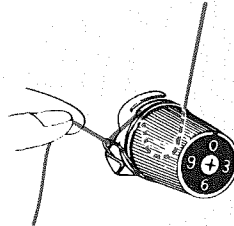

Fig. 3
3. Release thread and the spring wire loop will return to position with thread as shown in Fig. 3.